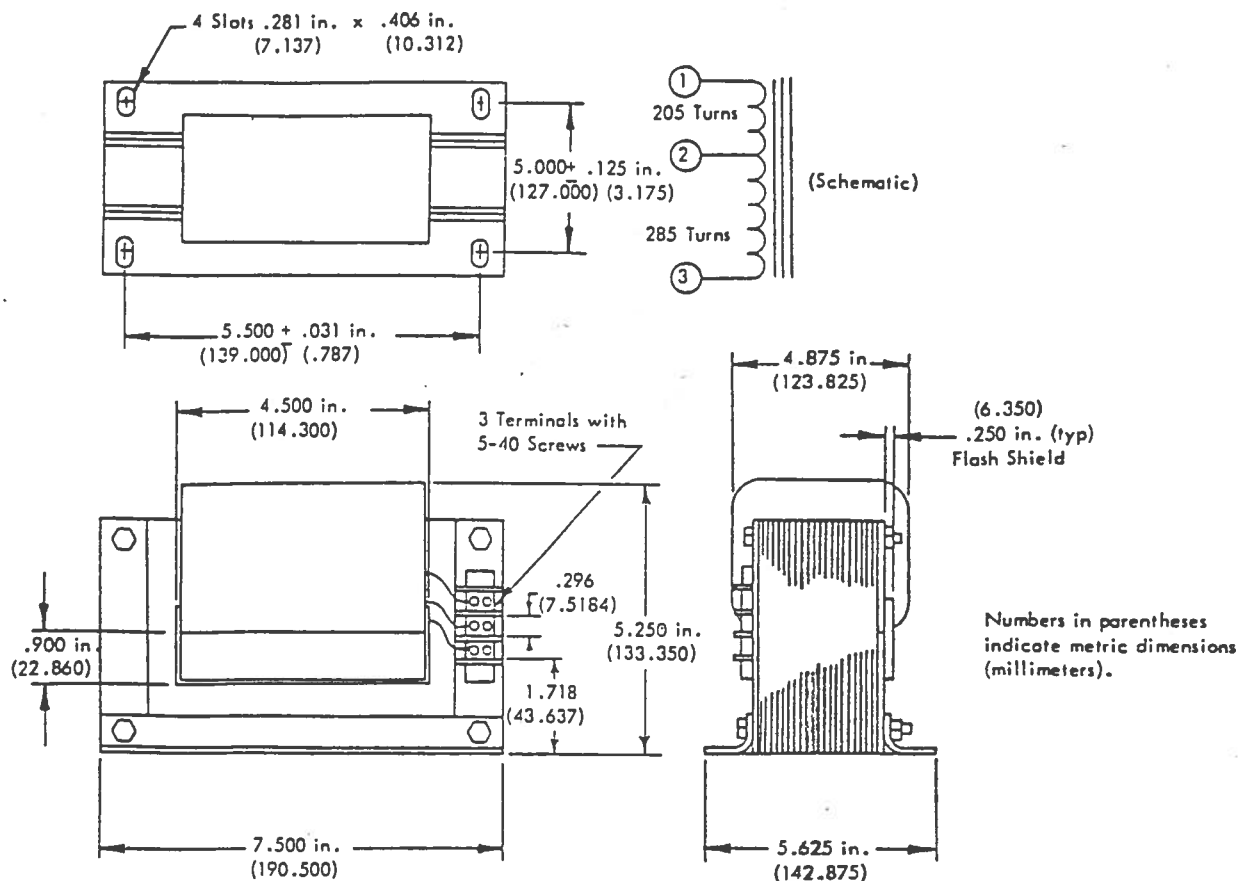
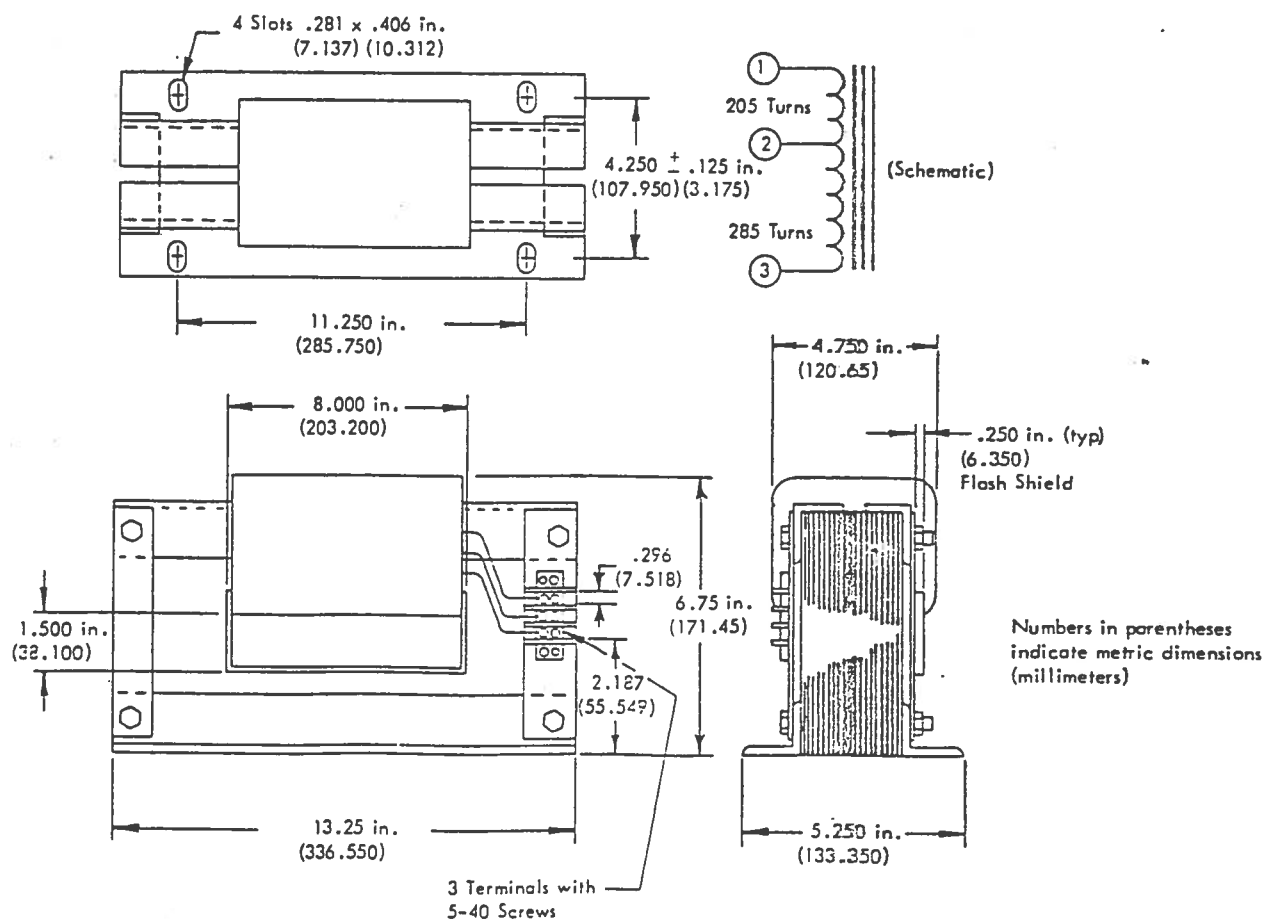

Figure 4-2A. Outline Drawing - Current Transformer Pt no. BE 15486-001
Figure 4-2B. Outline Drawing - Current Transformer Pt no. BE 16866-001
- a) P/N BE 15486-001 - standard size (see Figure 4-2A)
- b) P/N BE 16866-001 - larger "window" (see Figure 4-2B)
The current transformer(s) selected for use with the CBS 344 or CBS 377 system is placed in two phases of the generator output to provide a source of both operating power and current boost for the current boost module. See Figure 4-3A. Secondary coil taps are provided to select appropriate ampere turns. Two electrically identical transformers are available: P/N BE 15486-001 (standard, see Figure 4-2A) and P/N BE 16866-001 (larger cable "window", see Figure 4-2B).
See Figure 4-2A and 4-2B for the configuration of the two available CTs. (Both CTs have identical electrical characteristics - however, the CT shown in figure 4-2B has a larger "window" for accepting the generator cables).